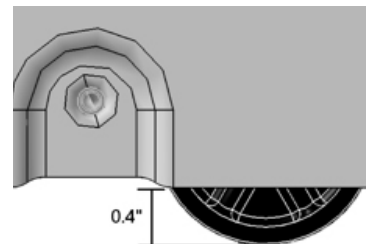

Fig. 7
- d. Attach remaining 3 Leveler Assemblies as described in the previous 3 steps using the remaining six 4H bolts and the remaining three 5H bolts. With the unit(s) still on their backs, adjust all leveling wheels to orientation in Fig. 7.